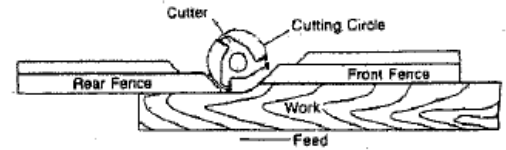

Fig. 10
- The front fence should be advanced to make contact with the work as shown in Fig. 10. The rear fence will then be in line with the cutting circle.